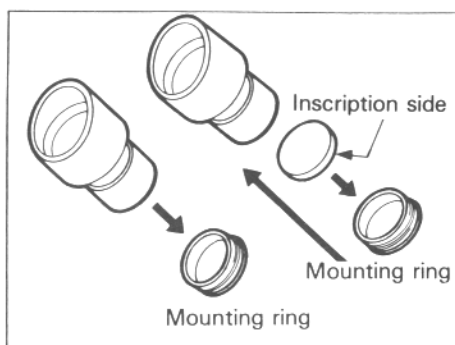

Fig. 7
- (1) Twist out and remove the mounting rings from the eyepieces. (Fig. 7)
- (2) Remove dirt or dust from the eyepiece micrometer, and mount it to the mounting ring with the inscription side facing downward. (Fig. 7)
- (3) Gently screw the mounting ring containing the eyepiece micrometer into the eyepiece and tighten securely. (Fig. 7)
- (4) To remove the eyepiece micrometer, twist the mounting ring. Wrap the micrometer in clean, soft paper for storage.